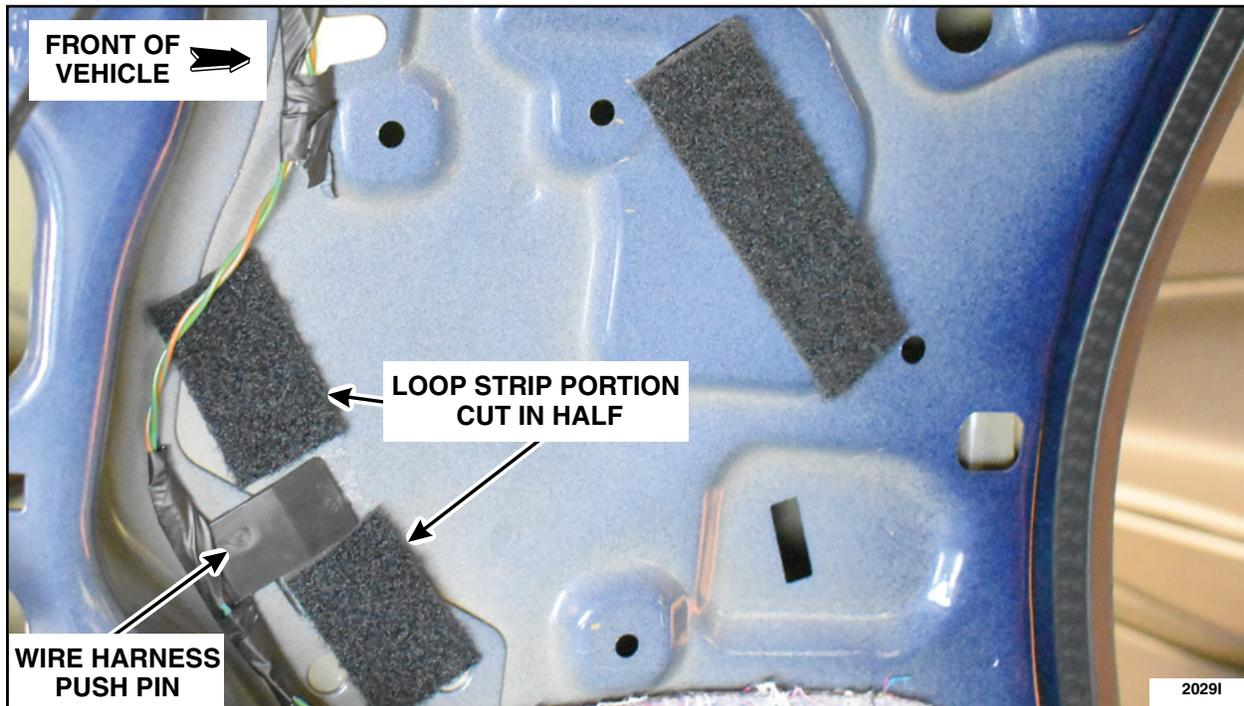

FIGURE 7
10. Apply remaining two-halves of soft loop strip. See Figure 7.